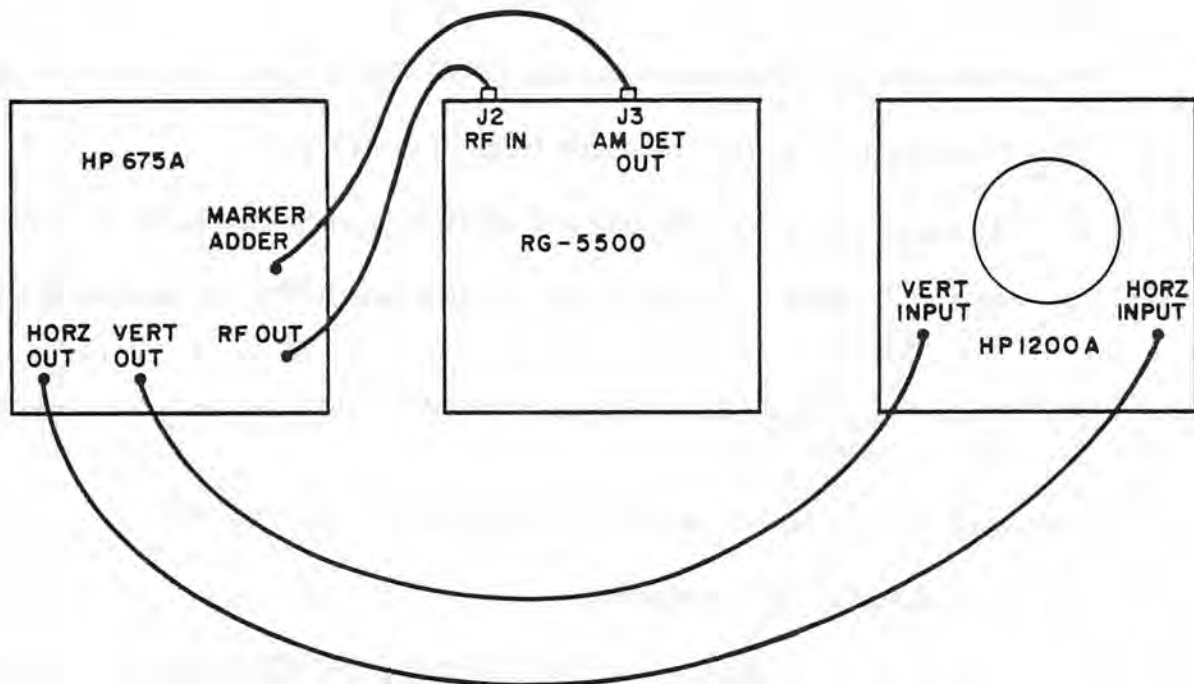

Figure 5-4. A23A1-A4 21.4 MHz Bandpass Amplifier
- (2) Apply ac power to receiver.
- (3) Connect test equipment as shown on figure 5-4.
- (4) Set receiver RF/IF GAIN adjust on front panel fully clockwise and push AM MAN mode selector.
- (5) Set oscilloscope sensitivity to 0.2V/cm.
- (6) Tune receiver to 20.0000 MHz and push Bandwidth MHz on front panel to select narrowest bandwidth.
- (7) Set sweep generator frequency to 20 MHz and sweep width to a convenient value two to four times the bandwidth of amplifier under test.
- (8) Set sweep generator output level to obtain a 5 cm deflection of oscilloscope (additional attenuation at generator output may be necessary).